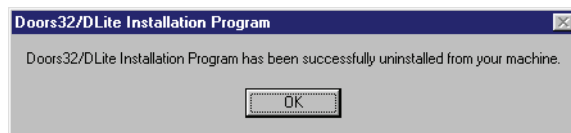

Figure 1-10: *Doors* Removal Complete
9. Once the program removal process is complete, the *Doors* Removal Complete window appears (see Figure 1-10).